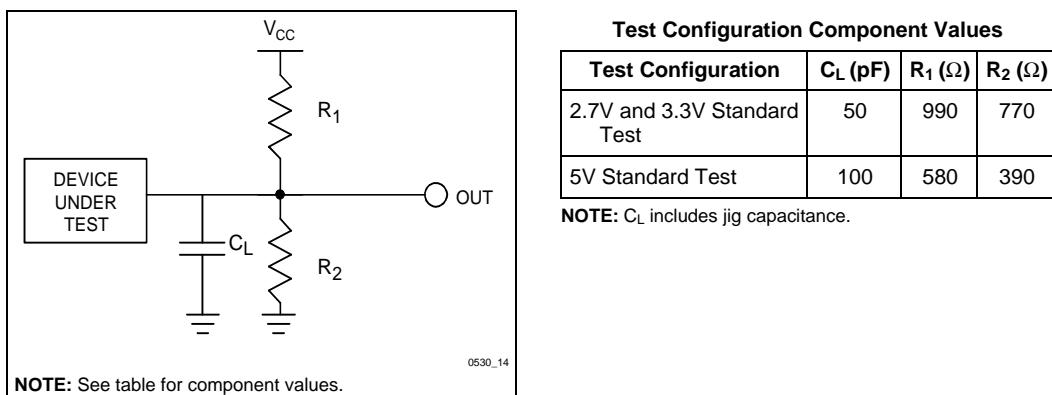

Figure 22. Test Configuration
5. See Test Configurations (Figure 22), 2.7V–3.6V and 3.3 ± 0.3V Standard Test component values.
6. See Test Configurations (Figure 22), 5V Standard Test component values.
9. See Test Configurations (Figure 22), 2.7V–3.6V and 3.3 ± 0.3 V Standard Test component values.
10. See Test Configurations (Figure 22), 5V Standard Test component values.